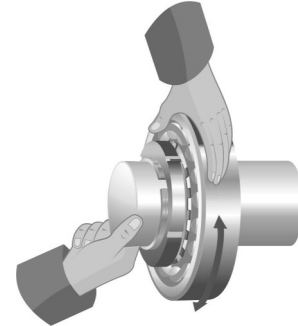

Fig. 6
**See Tables 1, 2 and 3 to verify measured clearance.** It is advisable to measure the clearance several times to ensure measuring consistency. Rotate the bearing 1/4 turn between measurements (Fig. 6) to ensure the rollers are normally aligned. During measurements use a straight edge to align the inner ring with the outer ring. **Do not** roll the bearing over the feeler gages as this is not an accurate method of measurement. When measuring clearance at the bottom, the weight of the roller puts pressure on the feeler gauge. Heavy rollers make this measurement more difficult. When possible, compare measurements using the top and bottom measuring methods. The clearances must be the same. During mounting, sling or lift the bearing outer race periodically during the mounting process to compare top and bottom measurements.